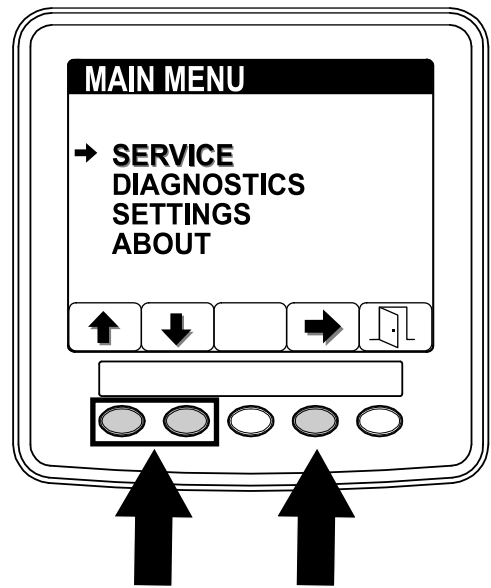

Figure 66
1. On the MAIN MENU, press button 1 or button 2 to navigate to the SERVICE option, and press button 4 to select the SERVICE entry (Figure 66).